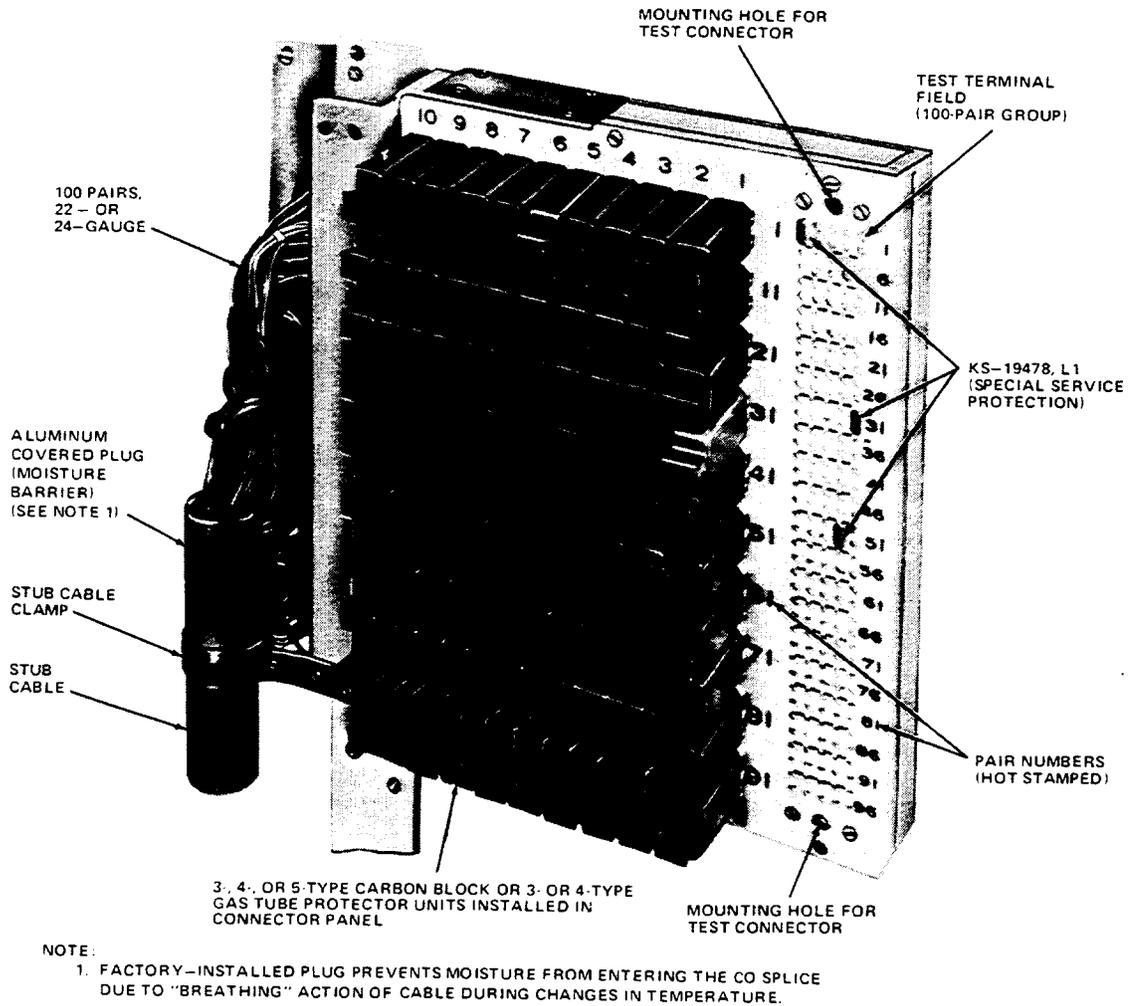

Figure 23—305-Type Connector
6.07 The 305-type connectors (Figure 23) are used for terminating and protecting outside plant cables on conventional and low profile conventional